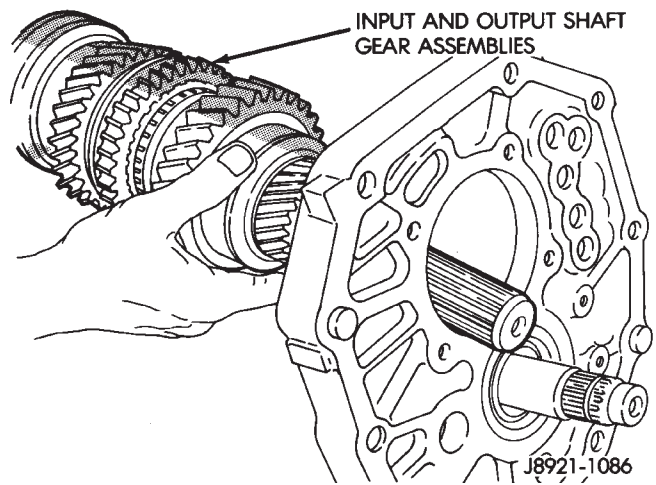

Fig. 56 Removing Assembled Input And Output Shaft
(4) Remove output shaft by rocking it lightly until rear bearing comes out of intermediate plate (Fig. 56).